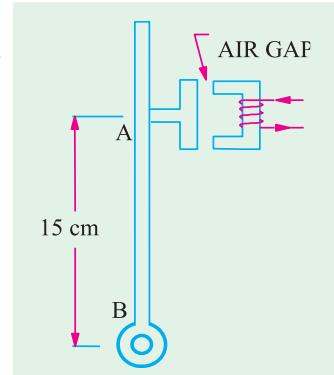

Fig. 8.8
**Solution.** The arm is shown in Fig. 8.8